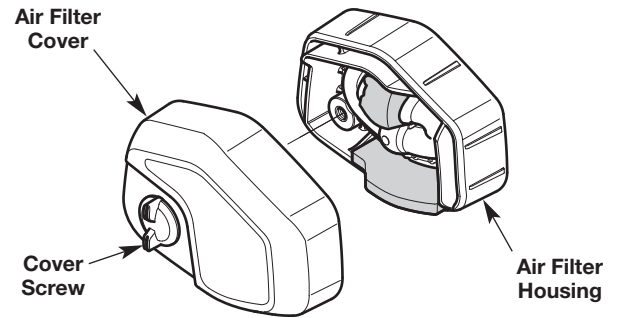
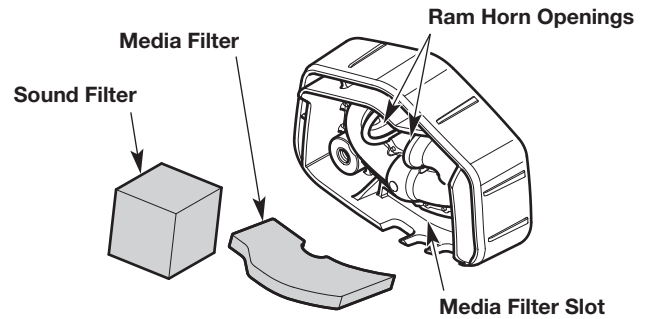

Fig. 31
Fig. 32
1. Turn the cover screw counterclockwise to loosen the air filter cover (Fig. 31).
2. Slide the air filter cover off of the air filter housing (Fig. 31).
3. Remove the sound filter and media filter from the air filter housing (Fig. 32).
6. Squeeze the sound filter and insert it into the space between the two ram horn openings (Fig. 32). Make sure the sound filter is pushed all the way in so that it completely covers both openings (Fig. 31).
7. Insert the media filter into the media filter slot (Fig. 32). Make sure the media filter lays flat against the bottom of the air filter housing (Fig. 31).